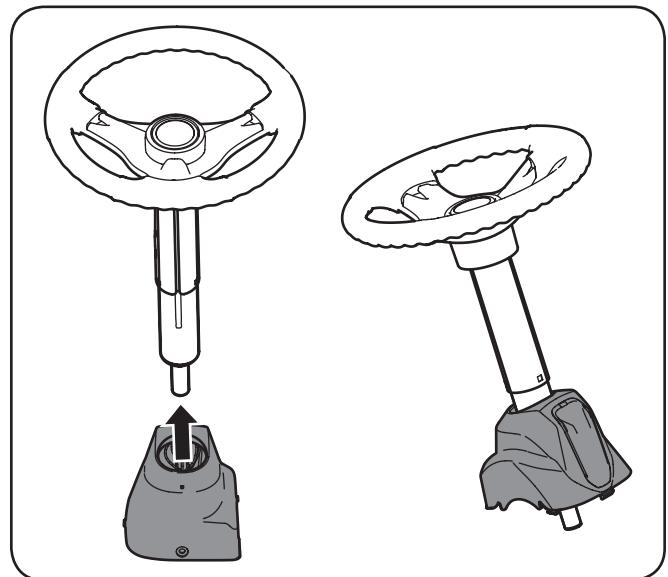

Figure 3-2
1. Slide the pedestal cap onto the steering shaft so that when the steering shaft is installed on the tractor, the pedestal cap will be upright as shown in Figure 3-2.